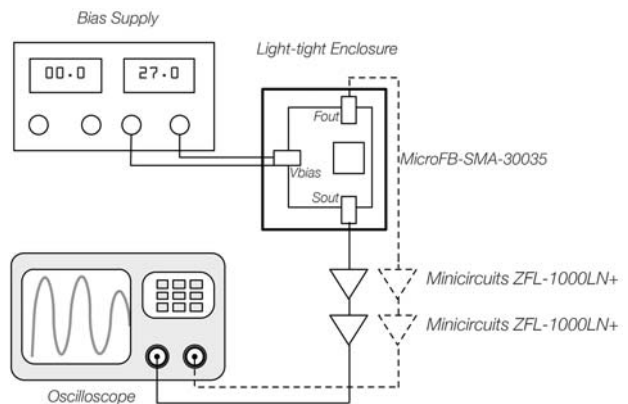

Figure 7. Set up for observing dark counts
- Using Figure 7 as a reference, connect one of the SMA–to–BNC cables to the Vbias SMA on the MicroFC–SMA–30035 board, and the other end to the bias supply, using the banana plug adapter if needed.